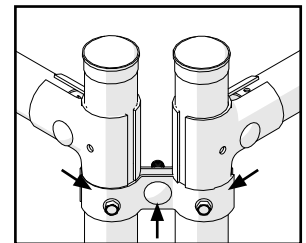

FIG. 6
- b.) Using 3/8" - 16 x 1-1/2" center bolt, attach clamps on each corner below each railing fitting. Install 3/8" hex head drilling screws into posts and clamp (Fig. 6)